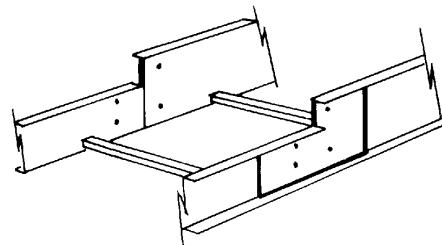

Figure 4.19
4.3.8 Step-down Splice Plates (See Figure 4.19.)